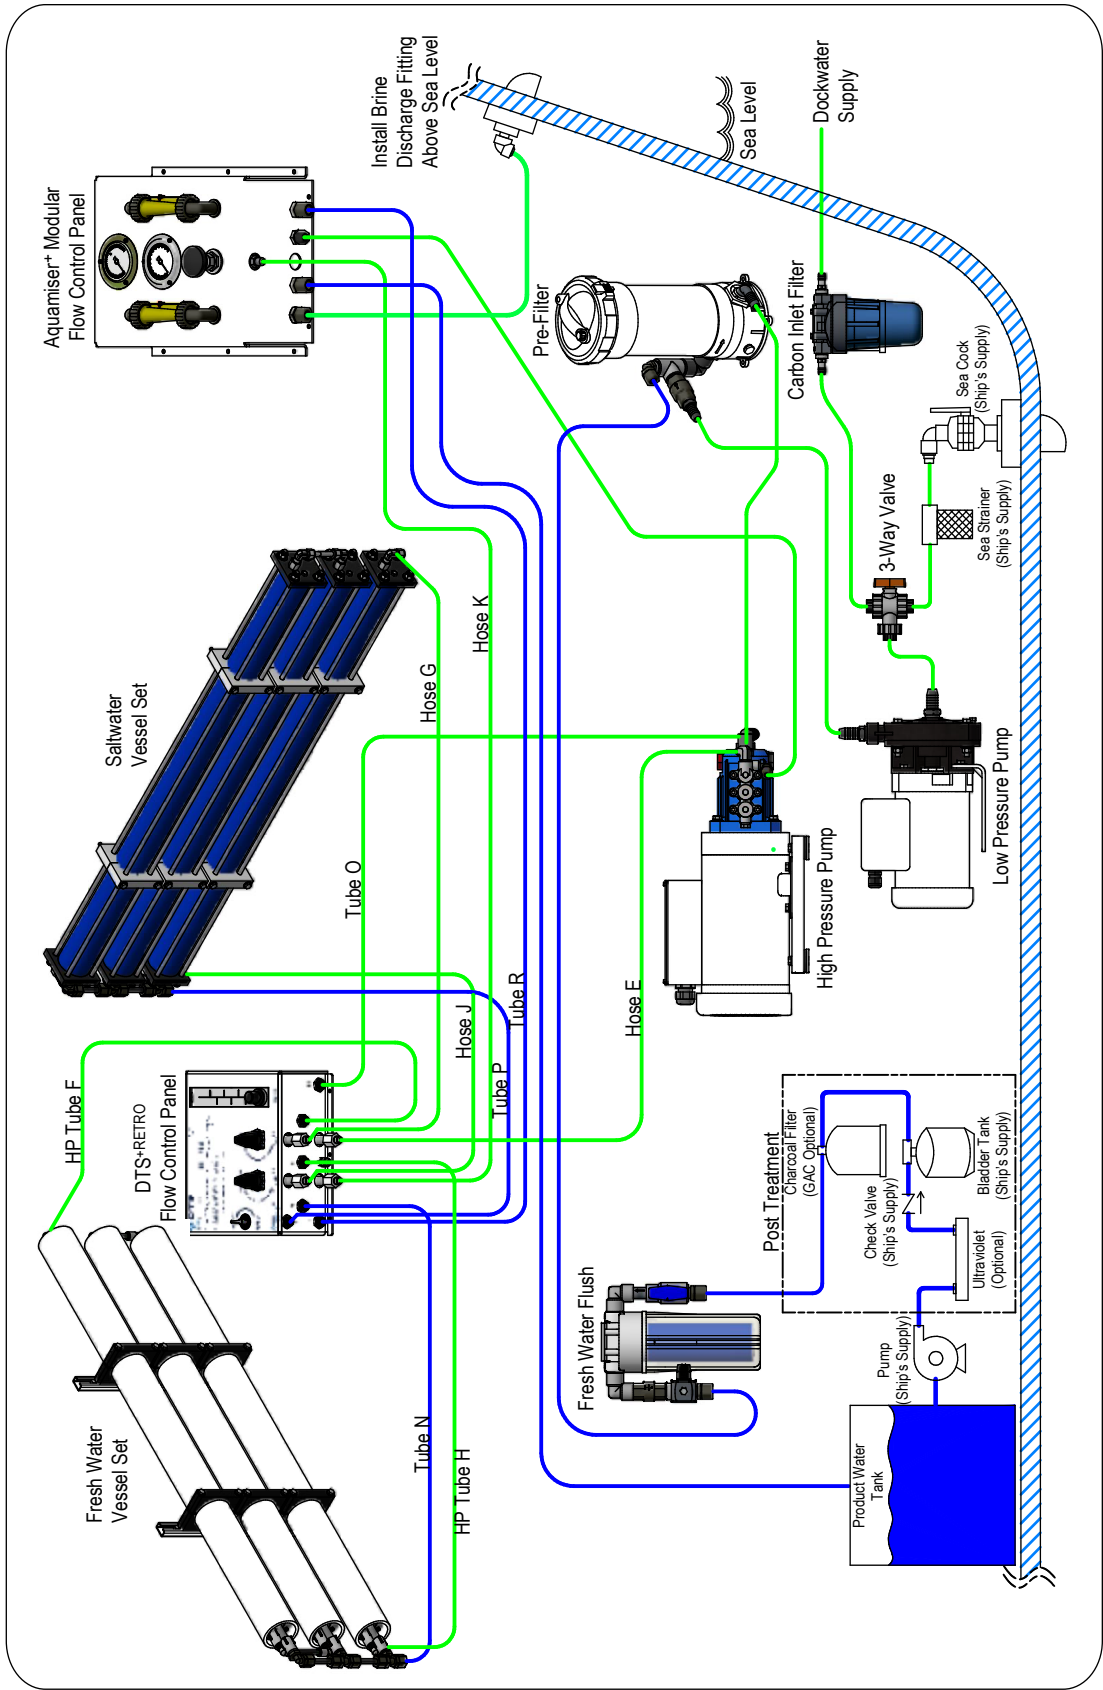

Figure 18: Aquamiser+ Modular 1,800 GPD with DTS+RETRO
- "Figure 18: Aquamiser+ Modular 1,800 GPD with DTS+RETRO" on page 40